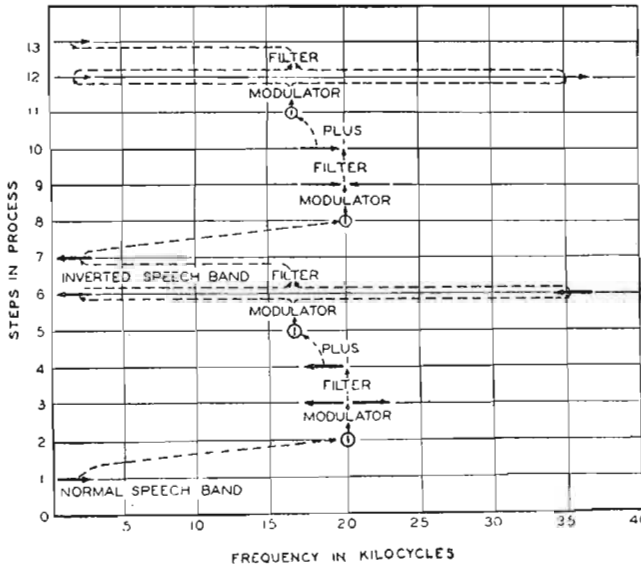

Fig. 2
The various changes undergone by the sound-frequencies in the "inversion" process may be readily seen from Fig. 2, in which are shown all the steps from the time the original frequencies are superimposed upon the first modulating frequency until they are "inverted," and then "reverted" back to the normal sounds. At the left of the diagram are the various processes numbered; and along the bottom are indicated the frequencies at which the processes occur. The arrows pointing to the left indicate that the frequencies at that particular stage are "inverted," and those pointing to the right show the opposite to be true. The normal speech in No. 1 (a band of frequencies 100 to 2000 cycles wide) is impressed on a frequency of 20 kilocycles at No. 2 (20,000 cycles indicated by (I), and produced by an oscillator) which it modu-
The process for reinverting these audible frequencies back again into understandable speech is carried out in exactly the same way as in the inversion. (See steps No. 8-13 in Fig. 2.)
Fig. 2 is a simplified sketch of an oscillograph galvanometer. Essentially, it consists of a single loop of wire, placed between the poles of a permanent magnet, which supports a small mirror. This part of the galvanometer is called the vibrator element. A ray of light is focused upon the mirror and reflected on a moving photographic film. When no current is passing through the vibrator-element conductor, the reflected beam of light causes a straight line to be recorded on the film. As soon as a current is sent through the vibrator element, one wire, A, will move in a direction opposite to that of wire B, causing a rocking motion of the mirror and of the beam of reflected light. Thus, any change in the current impressed on the input leads causes a corresponding shift in the position of the spot of light on the film. This, then, affords a means for recording, photographically, an electrical current. Fig. C shows a close-up view of an oscillograph's vibrator element. A and B are the fine wires forming the loop; C, the tiny mirror; D, one of the supporting bridges; and E, the roller for equalizing the tension on the wires.